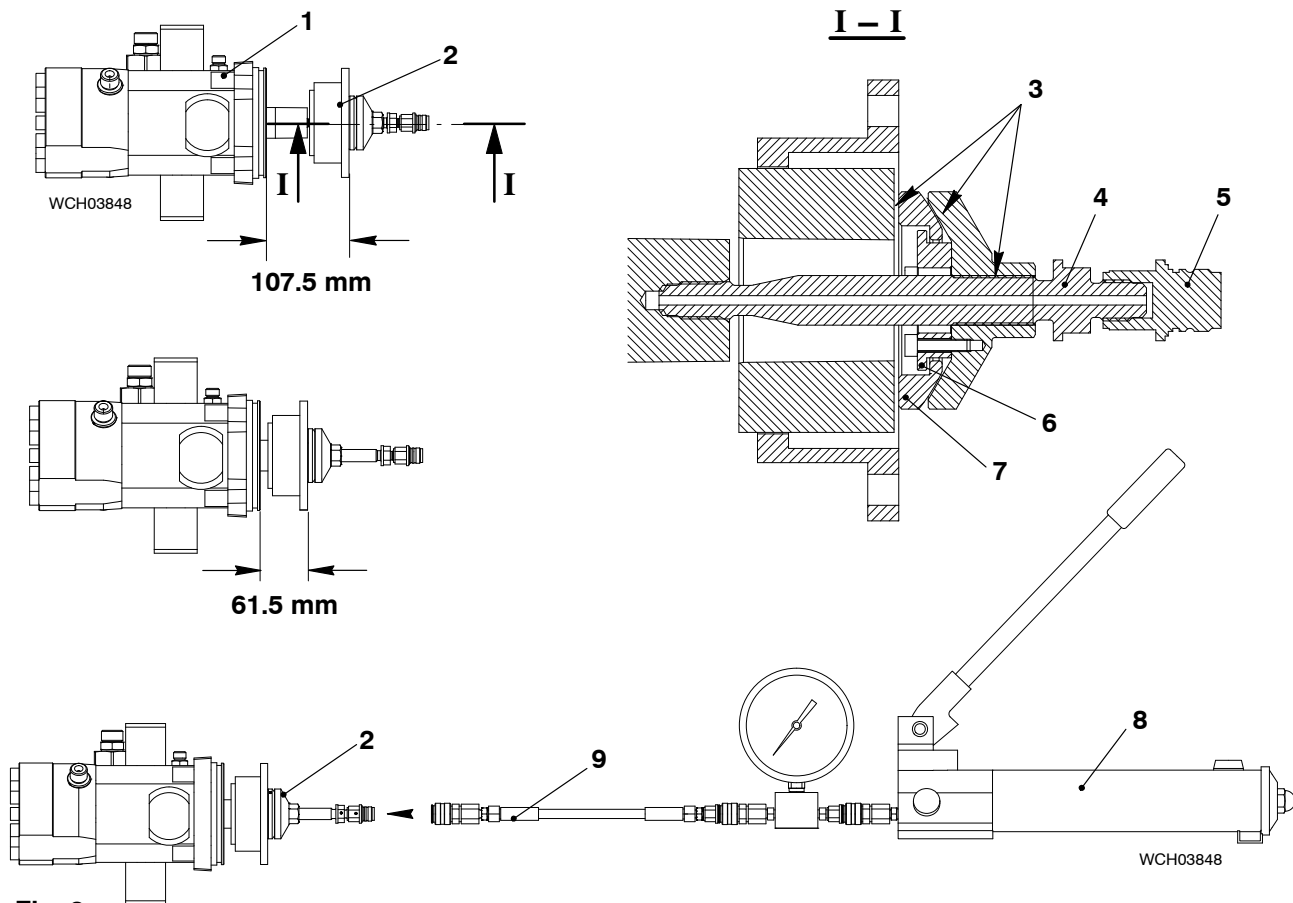

Fig. 3
- 1) Push as far as possible the special nut (2, Fig. 3) on the shaft of the pilot fuel valve (1). Make sure that the coupling is at 90° to the shaft of the pilot fuel valve.
- 2) Measure the distance from the special nut (2) to the end face of the pump (1). Make sure that the distance is approximately 107.5 mm.
- 3) On the assembly tool (94573) turn fully back the special nut (2).
- 4) Apply Molykote G-Rapid Plus to the surfaces (3).
- 5) Attach the adapter piece (4) to the shaft of the pilot fuel pump (1).
- 6) Torque the adapter piece (4) to 45 Nm.
- 7) Turn the special nut (2) until it touches the spherical disc (7).
- 8) Attach the HP hose (9) to the HP oil pump (8)
- 9) Attach the hose (9) to the closing valve (5).